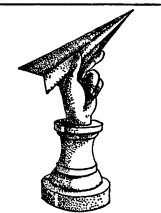

FIG. 6: The Leonardo.
1. Scientific American has created The Leonardo (see Fig. 6) to be winner's trophy in each of these four categories:
“Vittorio Sarti of Italy in 1828 designed a genetic hybrid between a sailboat and a helicopter with great vanes of paper designed to catch soaring breezes. It never got beyond drawing paper. (See Fig. 6.)